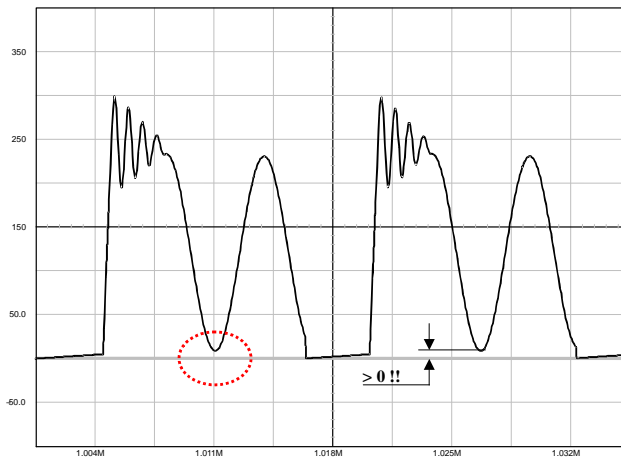

Figure 46. The Drain-Source Wave Shall Always be Positive
1. The lateral MOSFET body-diode shall never be forward biased, either during start-up (because of a large leakage inductance) or in normal operation as shown in Figure 46. This condition sets the maximum voltage that can be reflected during toff. As a result, the Flyback voltage which is reflected on the drain at the switch opening cannot be larger than the input voltage. When selecting components, you thus must adopt a turn ratio which adheres to the following equation:
Figure 48a: the simple capacitor limits the voltage according to the lateral MOSFET body–diode shall never be forward biased, either during start–up (because of a large leakage inductance) or in normal operation as shown by Figure 46. This condition sets the maximum voltage that can be reflected during t_{off} . As a result, the flyback voltage which is reflected on the drain at the switch opening cannot be larger than the input voltage. When selecting components, you must adopt a turn ratio which adheres to the following Equation 3. This option is only valid for low power applications, e.g. below 5 W, otherwise chances exist to destroy the MOSFET. After evaluating the leakage inductance, you can compute C with (Equation 4). Typical values are between 100 pF and up to 470 pF. Large capacitors increase capacitive losses...